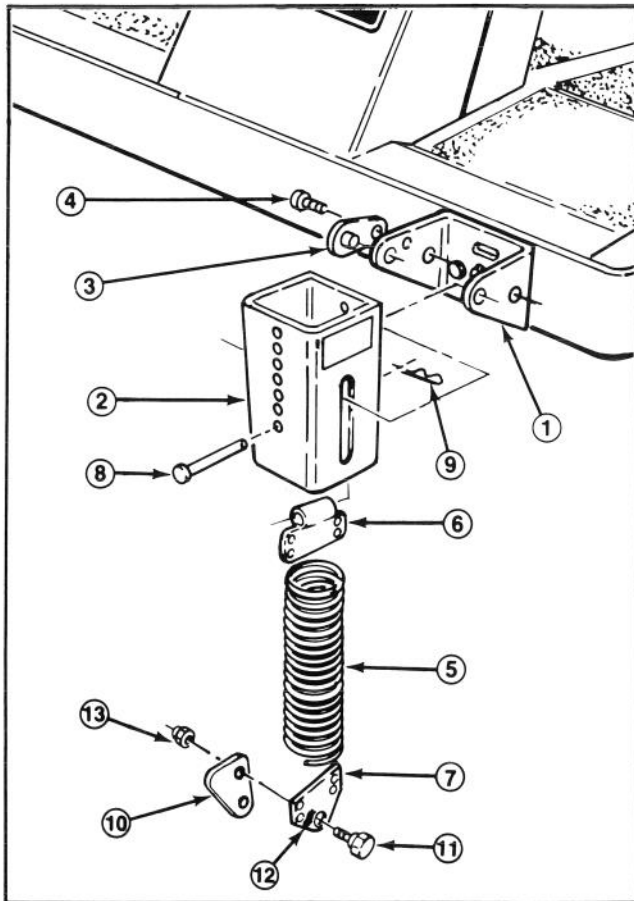

Figure 7
4. Thread the top extension spring coil into the top spring end holes and the bottom extension spring coil into the bottom spring end holes (Fig. 7).
1. 3/8 x 2-1/4" capscrew (2)
5. Mount knee link to lower spring end with wide part of knee link pointing forward and spring end stop pointing forward. Secure knee link to outer side of spring end with a shoulder bolt and locknut (Fig. 7, 8).
7. Align slotted holes in the spring cover (slot toward the bottom) with the mounting bracket holes. Insert lock pin assemblies into the bracket holes and secure each to the bracket with self-tapping screws (Fig. 7). Torque the screws to 20 ft-lb.
8. From the bottom, insert the spring and top spring end into the spring covers. Select a hole that matches the cutter deck height-of-cut hole setting; i.e., top cover hole matches highest height setting, bottom cover hole the lowest, etc. Align the top spring end hole with the selected spring cover holes and insert the clevis pin to secure the spring inside the cover (Fig. 7). Secure the clevis pin with the hair pin cotter (Fig. 7).